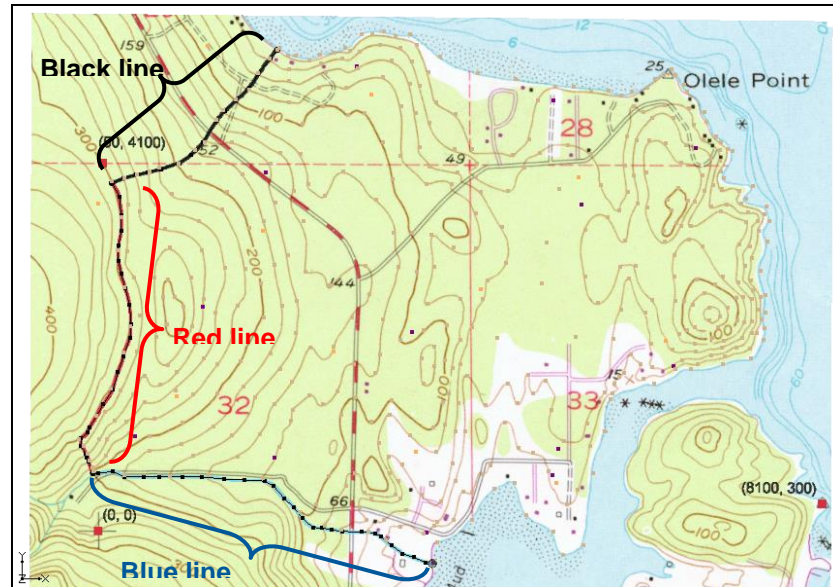

Figure 1 First three boundary arcs
2. Using the **Create Arc**  tool, click out a series of vertices to create an arc for the black line, double-clicking to end the arc (black line in Figure 1).
3. Click out a series of vertices to create an arc for the red line, pressing *Enter* to end the arc (red line in Figure 1). Make sure that the arcs are connected by starting precisely at the ending point of the previous arc.
4. Click out a series of vertices to create an arc for the blue river line (blue line in Figure 1). Again, make sure that the arcs are connected
1. Using the **Select Arcs**  tool, hold down the *Shift* key and select the coastline arc and the stream arc (the blue one in Figure 1, above).